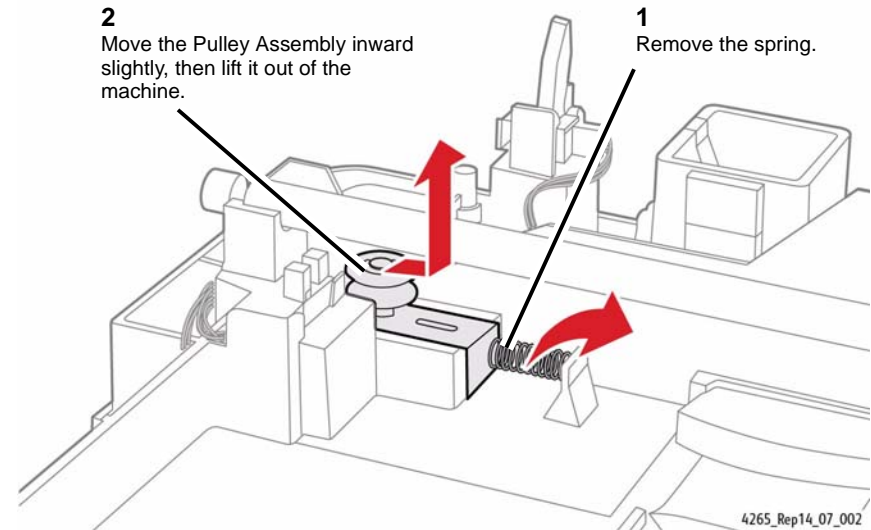

Figure 2 Removing the Platen Pulley Assembly
3. Remove the Platen Pulley Assembly (Figure 2).